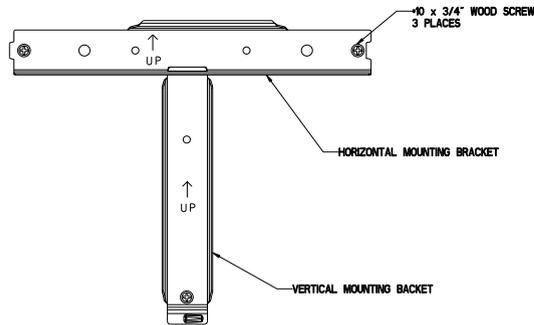

Figure 2-5. Mounting the T brackets
2. Install the top of the vertical mounting bracket into the slot on the horizontal mounting bracket to form a "T," as shown in Figure 2-5. Secure the vertical mounting bracket with at least one #10 X 3/4" long wood screw in the bottom hole.